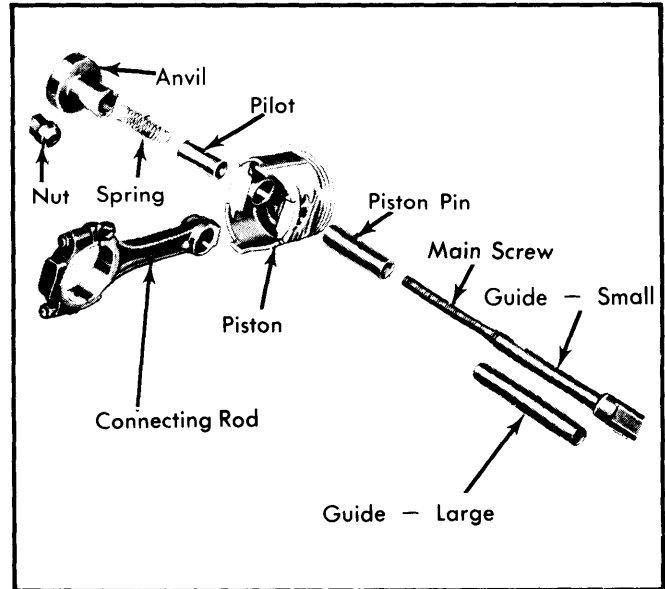

Fig. 9 Correct Procedure to Install Piston Pin
**Installation** — 1) Measure piston pin fit in the piston. If pin is not a sliding fit in piston at 70° F, piston and piston pin must be replaced as an assembly. Lubricate piston pin holes and connecting rods. Arrange pin removal tool C-3724 parts for installation of piston pin as shown in Fig. 9.